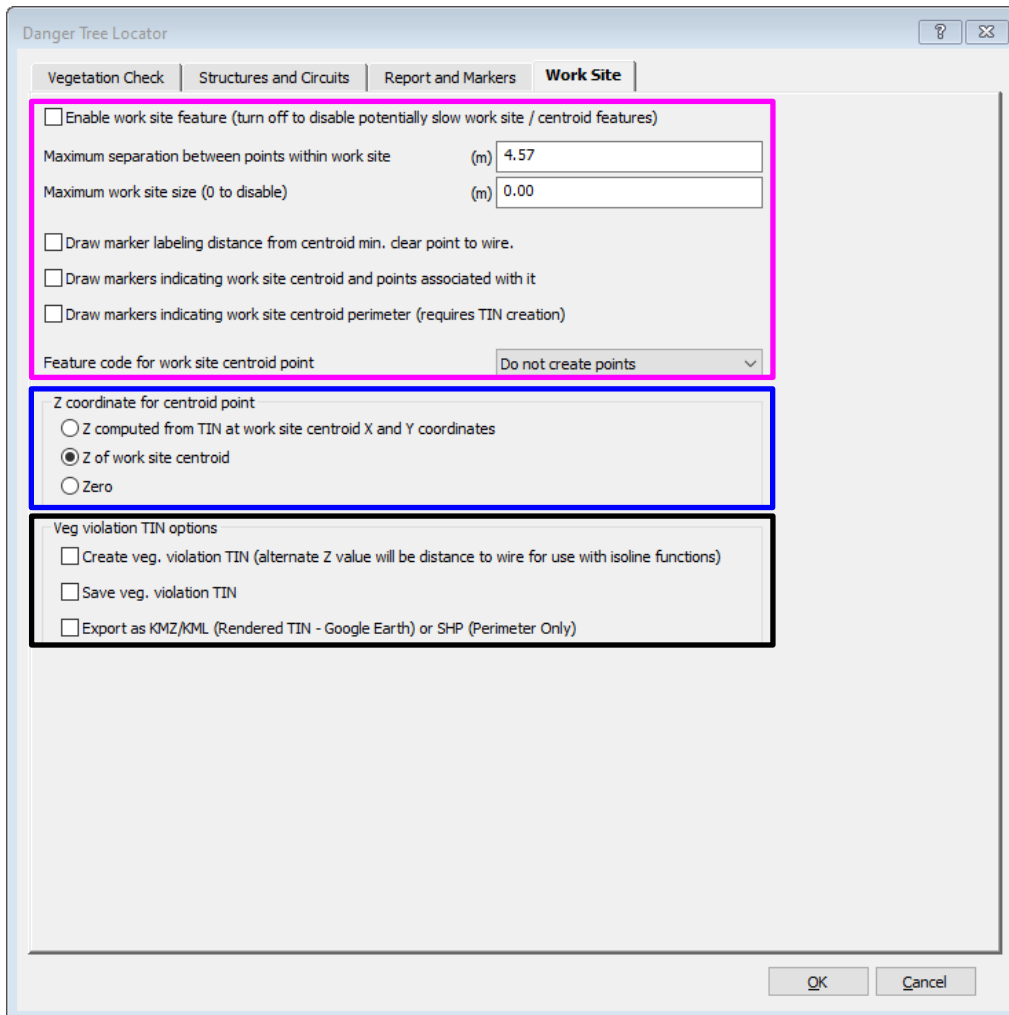

Figure 8: Danger Tree Locator - Work Site tab
- *Work Site / Centroid Report*: Provides insight into the calculated work sites. The number of points and triangles in each site, the centroid coordinate of the site and the Area of the TIN surface and the land area of each Work Site. Only included if the Work site feature was enabled on the **Work Site** tab of the **Danger Tree Locator** dialog box (Figure 8).